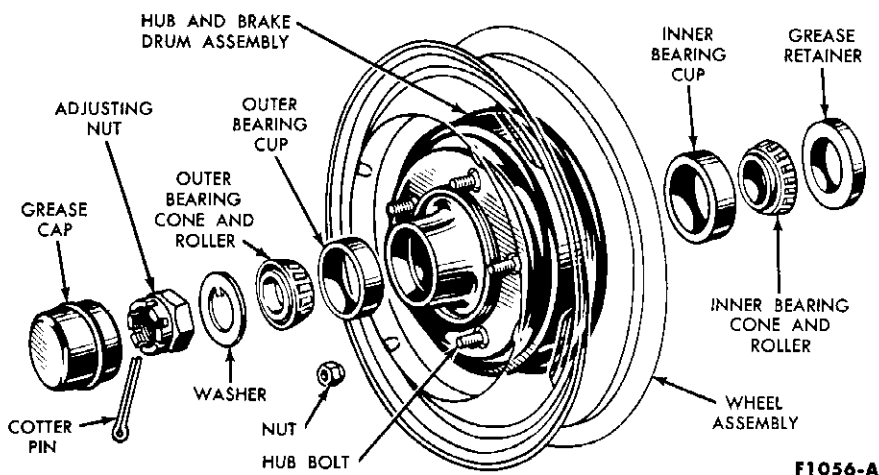

FIG. 1—Front Hub, Bearings, and Grease Retainer
2. Pry off the wheel cover and remove the grease cap (Fig. 1) from the hub.